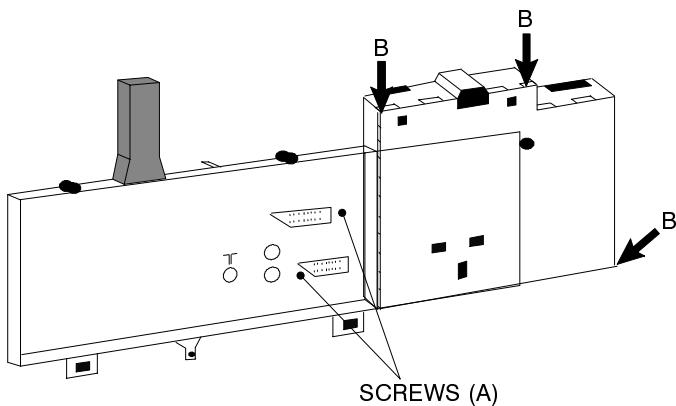

Fig. 6.
3. Carefully unclip the three metal clips marked B in Fig.6.
- 4. Retirer les 3 attaches métalliques repérées (B) sur la Fig.6.